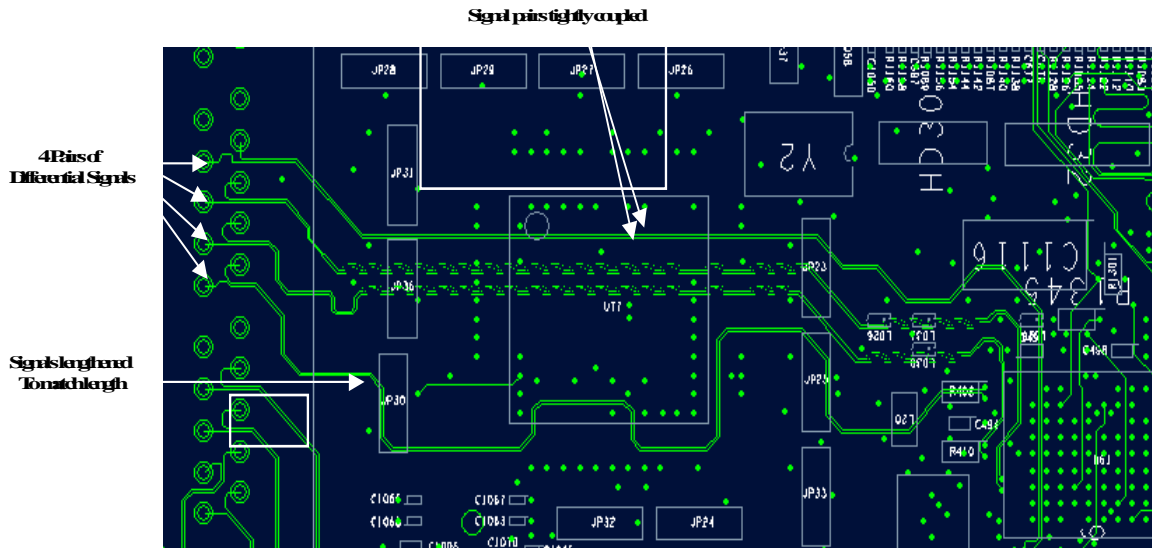

Figure 8-4. MDI Bus Layout
- The number of vias on any signal should be less than or equal to 4. See Figure 8-4 below.